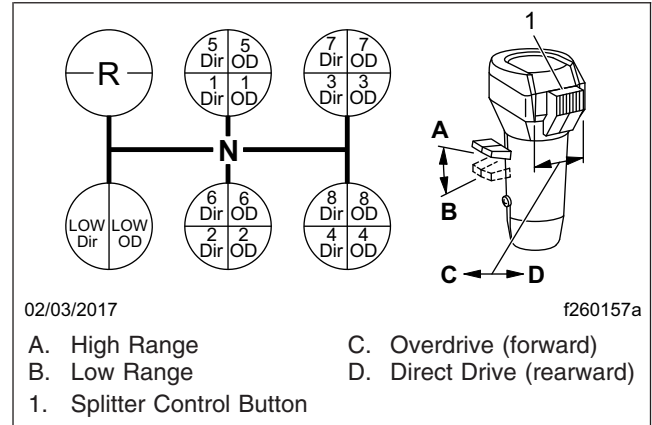

Fig. 13.2, Eaton Fuller 18-Speed Transmission Shift Pattern
2. Position the range-preselection lever down, into low range. See Fig. 13.2.
3. Make sure the splitter-control button is in the direct (rearward) position. See Fig. 13.2.
Shift upward from low overdrive to 1st direct by first moving the splitter-control button into the direct (rearward) position (**Fig. 13.2**). Move the shift lever, double-clutching, to the 1st gear position.
To shift from 5th direct to 5th overdrive, move the splitter-control button (**Fig. 13.2**) into the overdrive (forward) position, then immediately release